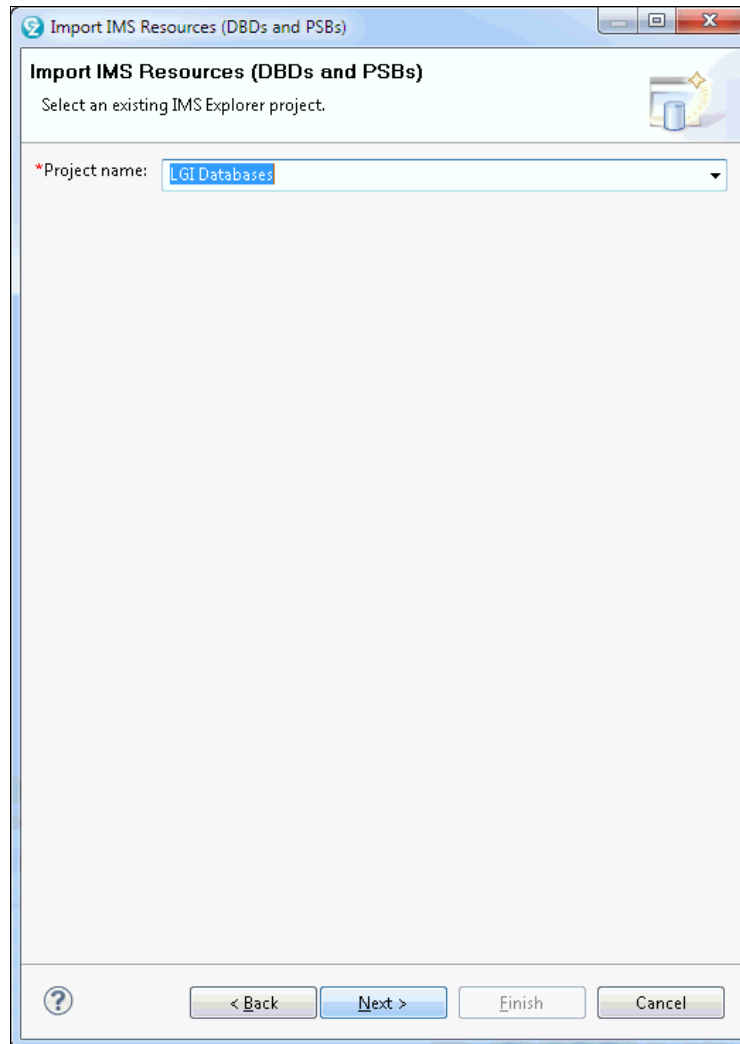

Figure 8-21 Provide a name for the IMS Resources to be imported
3. Enter the name of the project, as shown in Figure 8-21.